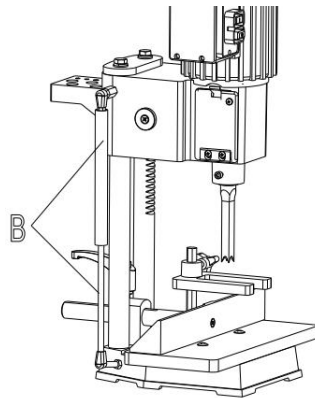

Fig. 5
4.Fig. 5, illustrates the gas spring (B) assembled to the machine. The gas spring